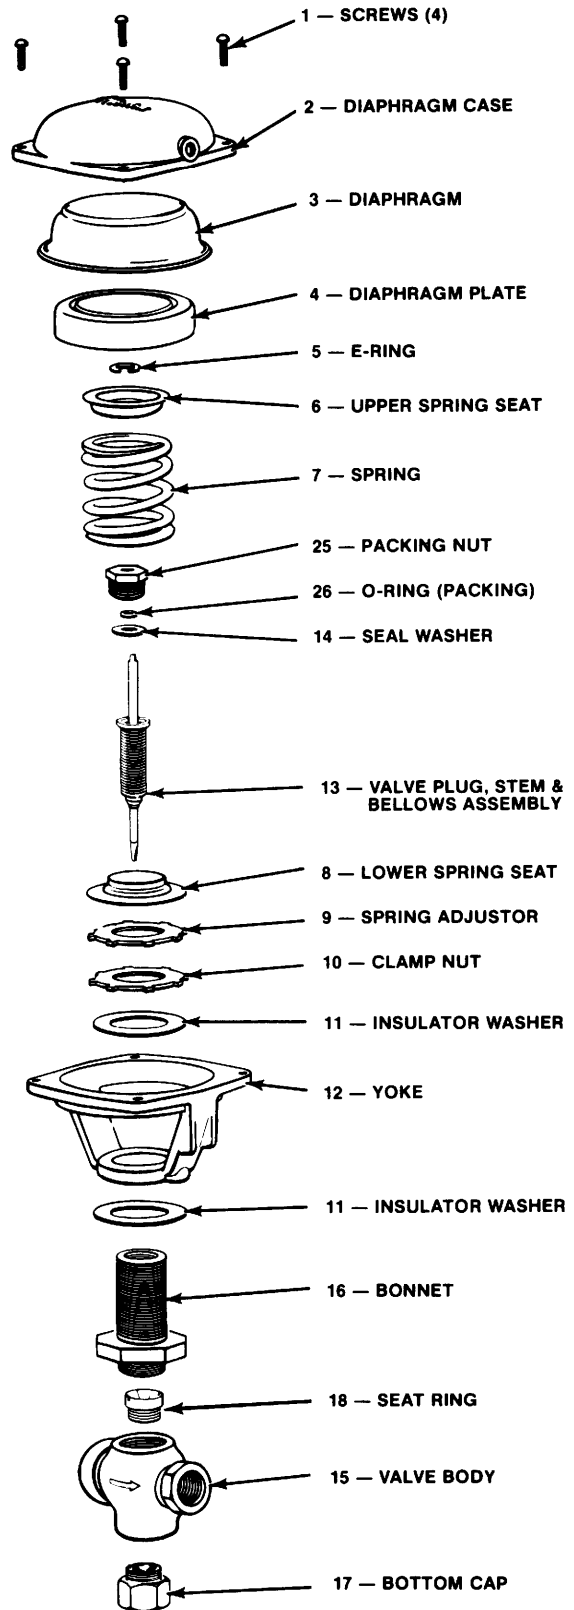

Figure 10
G. REPLACEMENT OF PRIMARY BELLOWS SEAL OR VALVE PLUG (Figure 10)
PARTS LIST FOR FIGURE 10, STYLE BH